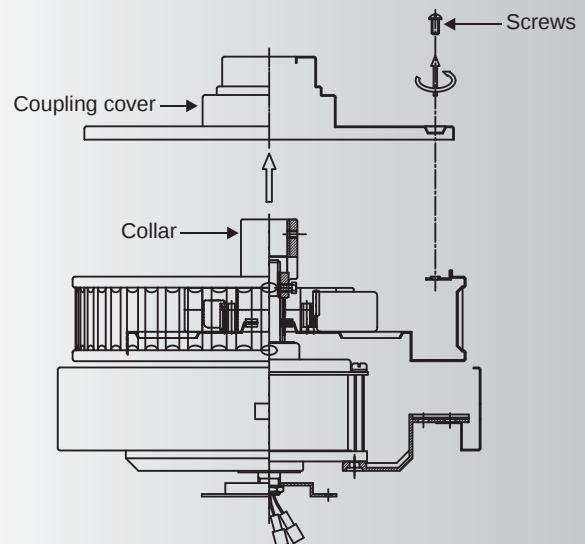

Fig. 7
Step 5. Remove the coupling cover from the motor housing by removing the four screws from the rim of coupling cover. (Fig. 7)